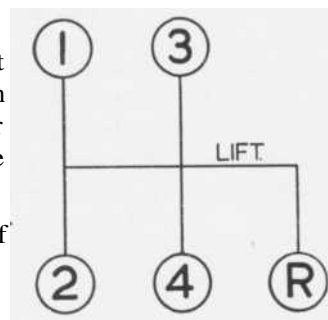

Fig. 3. Gear lever positions.
- P Head, Tail and Parking Lamp Switch.** Pull knob to switch on parking lights. Turn slightly clockwise and pull again to switch on the head lights. Press foot operated switch (U) to dip head lights, press again for " full on " position, in which position a small red light appears at the bottom of the speedometer dial.
- R Gear Change Lever.** See Fig. 3 for gear positions.